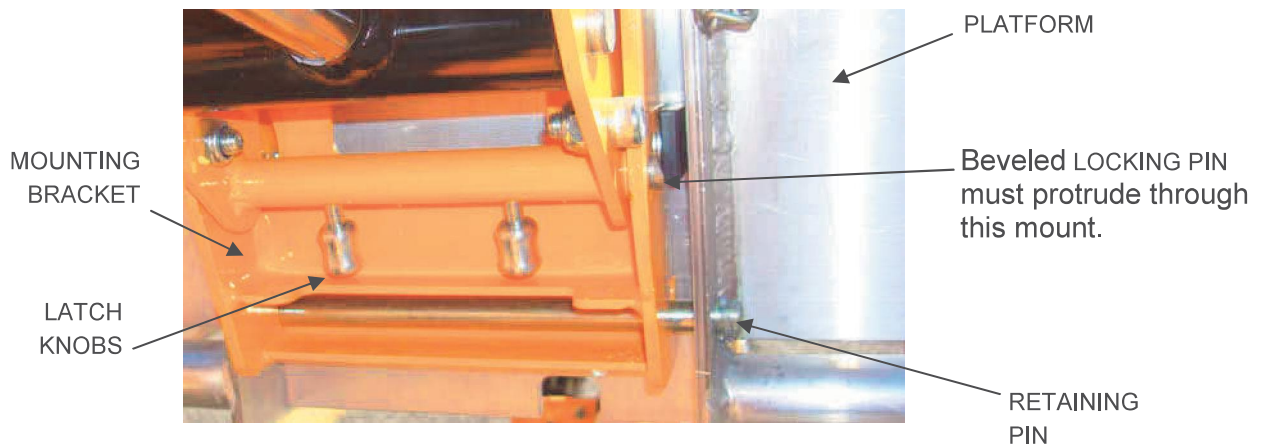

Figure 3-5. Platform Locking Pins
- Verify that the **PLATFORM** is properly attached to the **PLATFORM MOUNT** on the boom end. The **RETAINING PIN** should be fully inserted through the **PLATFORM** and the **PLATFORM MOUNT** on the boom end. Refer to Figure 3-5.